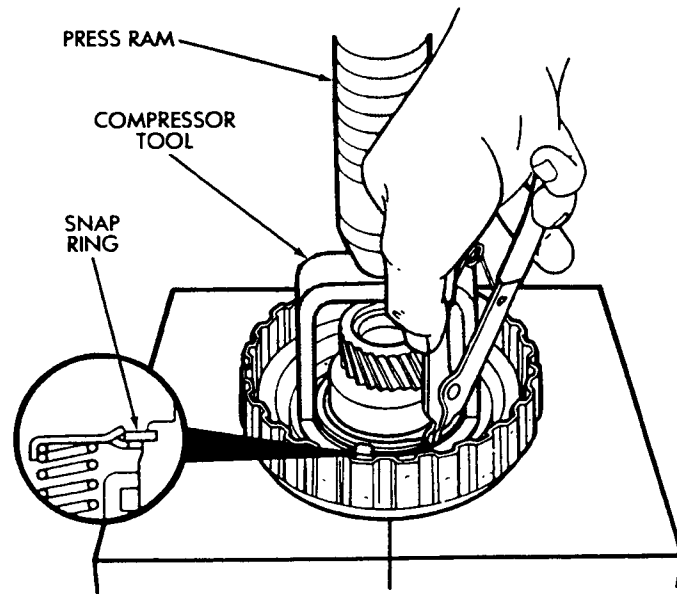

Fig. 24 Installing Clutch Piston Snap Ring
(11) Install piston snap ring. Compress piston return springs with compressor tool and shop press (Fig. 24).